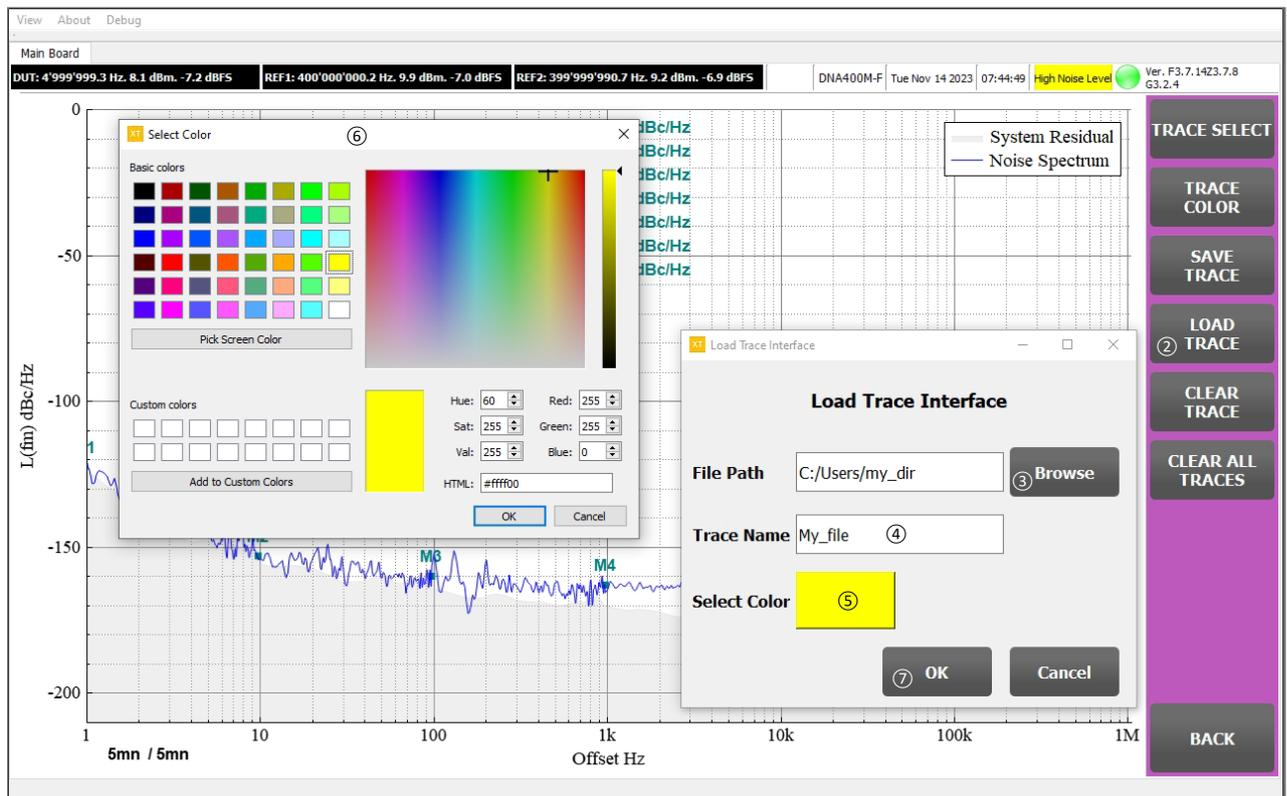

Figure 25 – Load graph data from file
The Load Trace Interface widget is then shown as illustrated in Figure 25. Input the desired graph name and select the graph color ⑥.
When users load a graph into a plot, remember not to use the reserved names. Otherwise, the graph’s data may be updated once the measurement is launched. The whole procedure of how to load a graph into a plot is illustrated in Figure 25 – Load graph data from file.